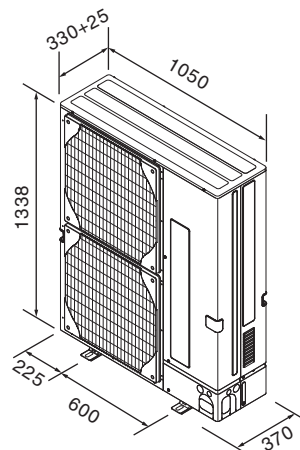

Fig. 2-2
9.2.3. Outline dimensions (Outdoor unit) (Fig. 2-2)